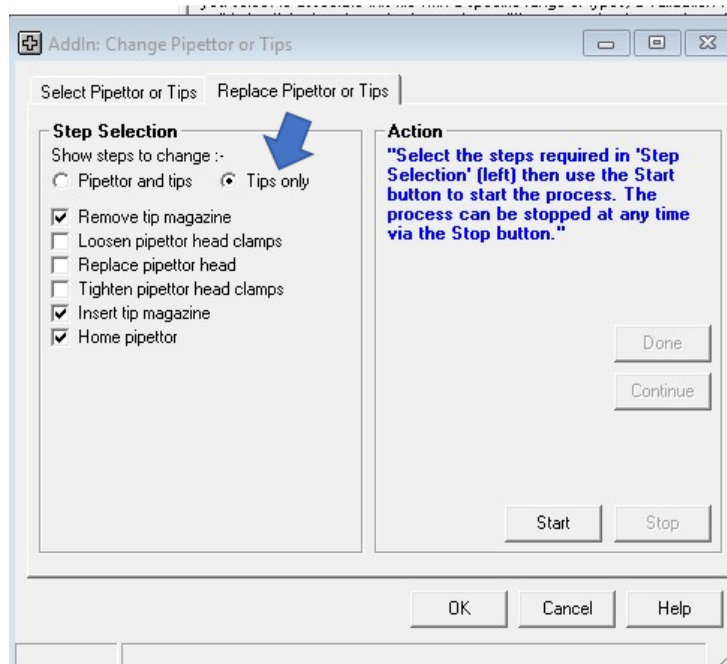

Figure 14. Screenshot of interface for changing pipetting head.
19. Choose any feature of interest (Figure 14 A) to visualize as a graphical (Figure 14 B) or numerical representation (Figure 14 C).
21. To export data, select a feature and go to **Spreadsheet > Export Current Spreadsheet > to File (Figure 14 D)**. This will export the feature chosen as an .xls file in plate map format. Every feature is exported separately. Exported assay features are: